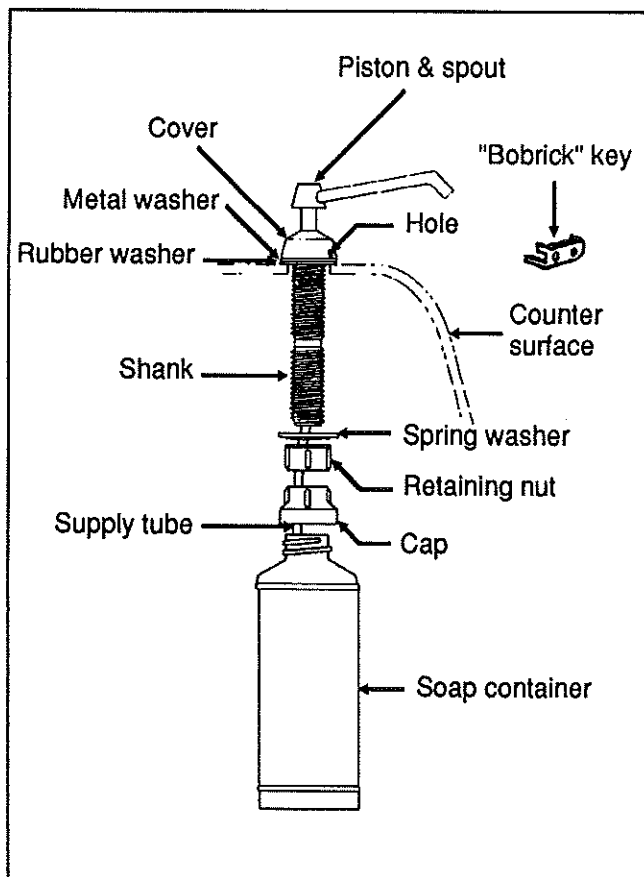

Fig. 17 - Liquid soap dispenser
2. Insert projection at end of "BOBRICK" key into rectangular hole in cover (see fig. 17). Push straight in. While holding "BOBRICK" key in, turn cover counterclockwise about 1/8 turn.